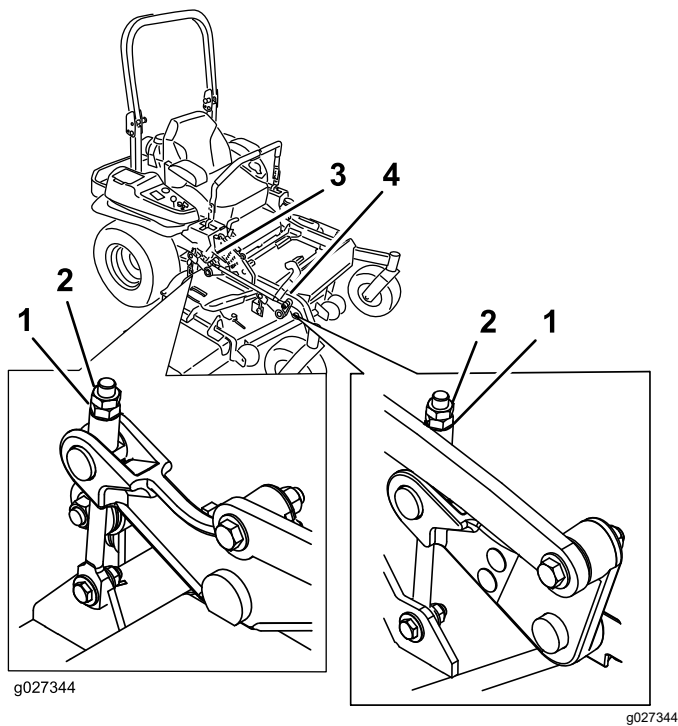

Figure 104
9. Fine-tune the adjustment nut on the front deck-lift assembly by turning it (Figure 104).
15. Fine tune the screw adjuster by turning it to get 8.3 mm (3-1/4 inches) height (Figure 104).